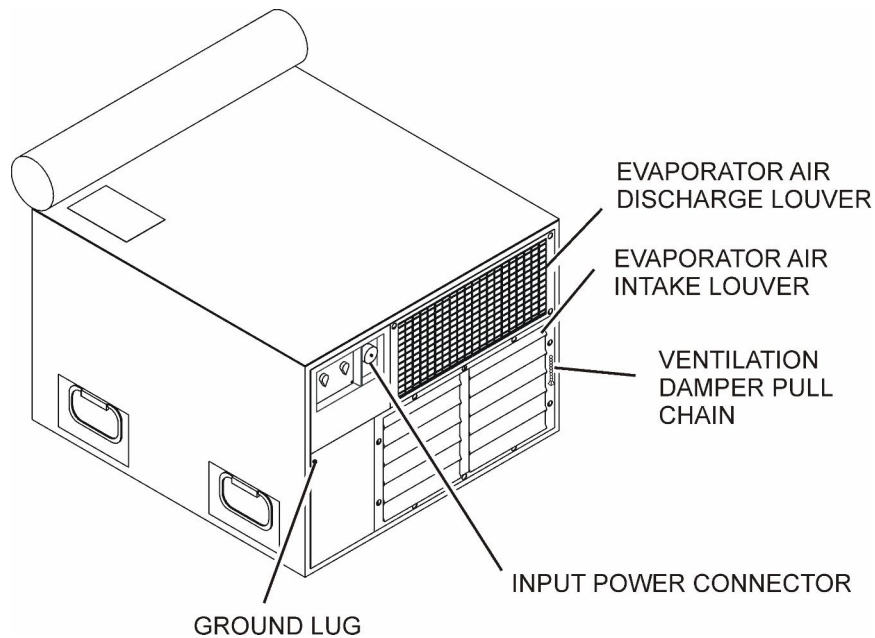

Figure 2. Evaporator Louvers
1. Position the evaporator air intake louver (see Figure 2) so that the louvers are fully open when the ventilation damper door is in the closed position. Partially close the evaporator inlet louver when the ventilation damper door is in the open position.